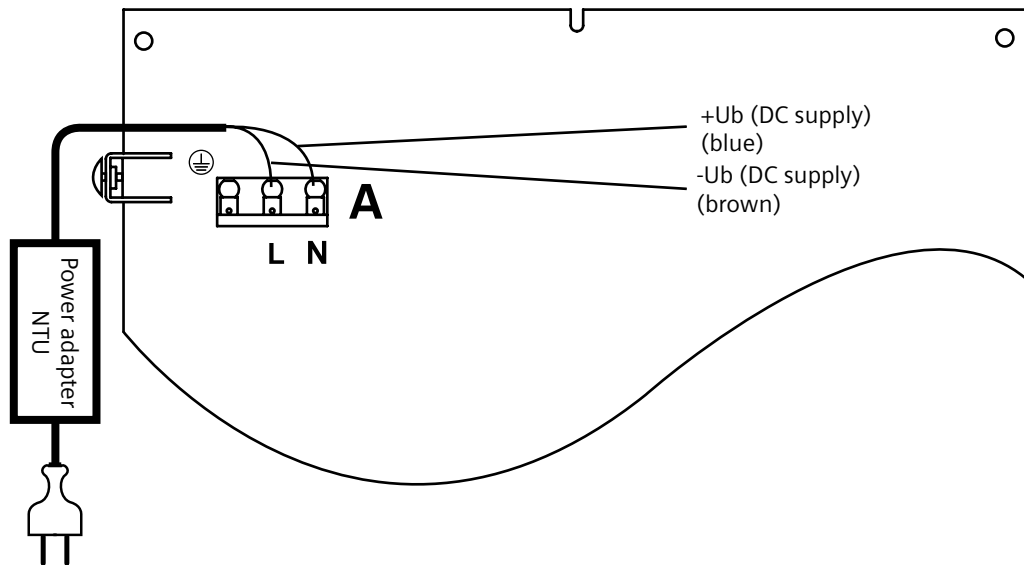

Fig. 2.171 Connecting desktop power adapter NTU
7. Connect the desktop power adapter according to Fig. 2.171 (**Warning:** You must not bend the board)